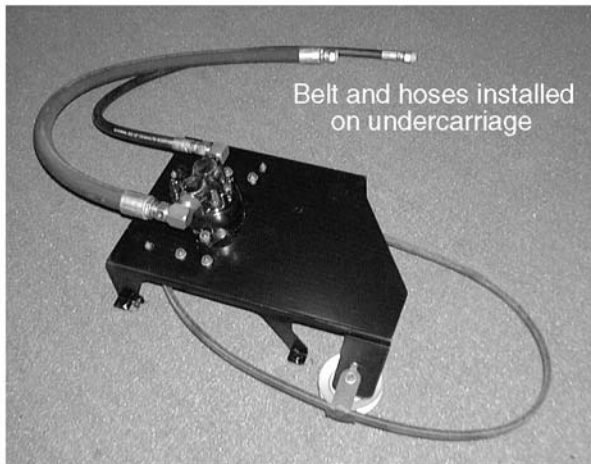

Figure 8-58.
1. Install one end of the larger diameter hose onto the larger male flare fitting of the hydraulic pump using a 1-1/8" wrench and a 1-1/4" wrench. See Figure 8-58.